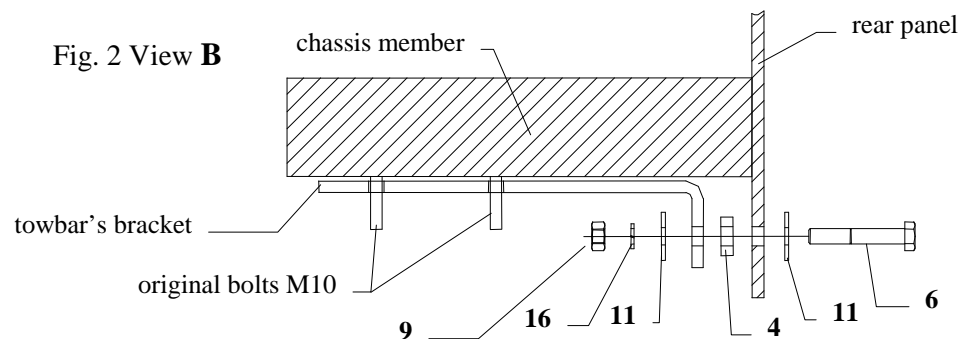

Fig. 2 View B
3. Slip main bar (pos. 1) under bumper – pull lit back, next holes pos. A put on bolts M10 protruding from chassis members and fix it using nuts M10 and big washers (pos. 10) from towbar accessories.
4. In places of original bolts M8 fix bolts M8x50mm (pos. 6) and next from inside fix it by nuts, remember about big washers (pos. 11)
5. In the event of last bolt on left side, the way of mounting show fig. 2.
6. Fix body of the automat (pos. 7) using bolts M12x25mm (pos. 5) from accessories. Place tow-ball (pos. 2) according to supplied instruction.
7. Fix the socket plate (pos. 3) as shown on the drawing.